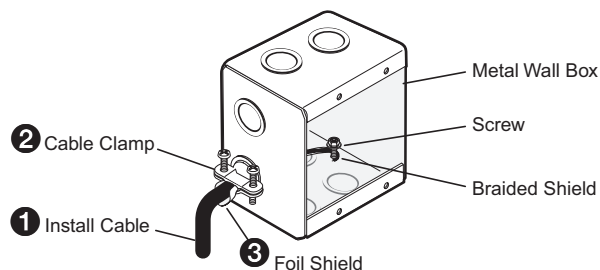

Figure 3. Grounding Outer Braided and Foil Shields
4. Feed the cables through the opening and through wall box punch-out holes (see figure 3, ❶), and secure them with cable clamps to provide strain relief (❷).
To prevent short circuits, the outer foil shield can be cut back to the point where the cable exits the cable clamp (figure 3, ❸).